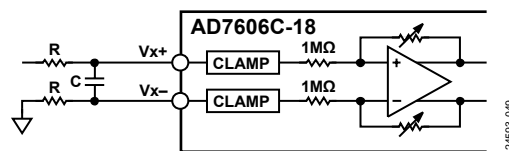

Figure 76. Input Resistance Matching on the Analog Input of the AD7606C-18 for Single-Ended Ranges (Vx- Tied to Ground)
It is recommended to place a series resistor on the analog input channels to limit the current to  $\pm 10$  mA for input voltages greater than  $\pm 21$  V. In an application where there is a series resistance (R) on an analog input channel, Vx+, it is recommended to match the resistance (R) with the resistance on Vx- to eliminate any offset introduced into the system, as shown in Figure 76. However, in software mode, there is a per channel system offset calibration that removes the offset of the full system (see the System Offset Calibration section).